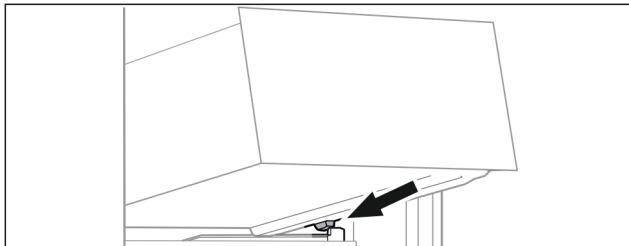

Fig. 167
- ▶ Place drawer at an angle behind the stoppers on the moulded rib. (see Fig. 167)